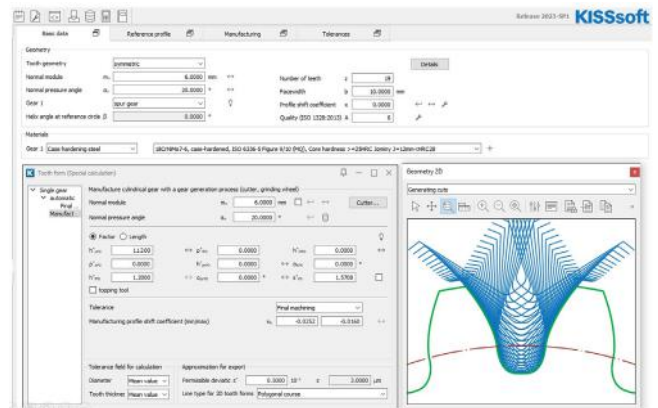

Fig 5: KISSsoft user interface Tooth Form – Manufacturing cylindrical gear with a gear generation
The second stage is generating the standard grinding process (in general the grinding wheel parameters are standard 1.12 times depth for tool addendum and dedendum as shown in fig.5 KISSsoft user interface). During this stage, the manufacturing shift coefficient (XE) value shall be default "Final Machining". Run the generation process and export the manufactured gear geometry in .dxf or .dwg file (example: ground.dxf).